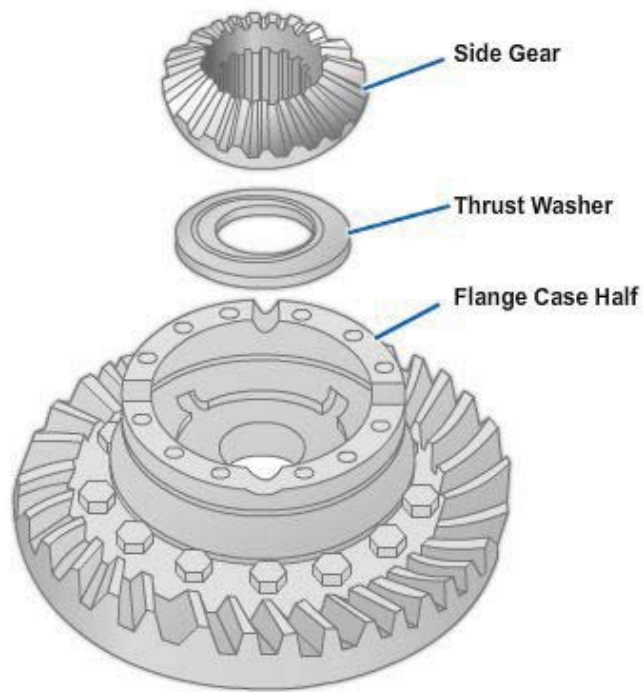

Figure 8-86 – Side gear installation.
9. Install one thrust washer and side gear into the flange case half (*Figure 8-86*).